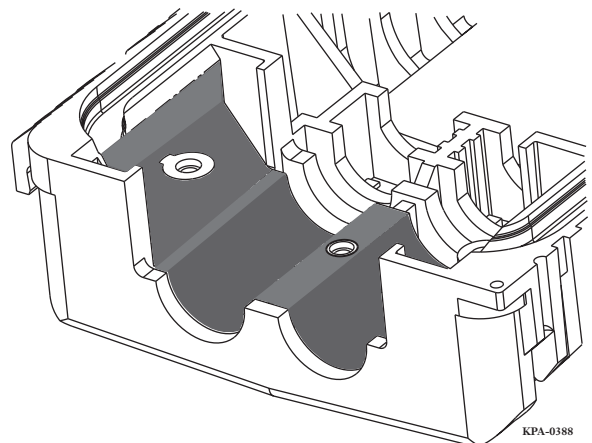

Figure 10
- Step 2:** Align the center hole in the tape with the center hole in the terminal base and apply sealing tape (Figure 10). Make sure not to obstruct the holes for the sealing wedge screws.